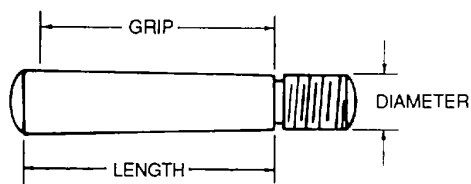

Figure 2-48. Threaded Taper Pin
(2) **Threaded taper pins.** Threaded taper pins, AN386, as shown in figure 2-48, are used with taper pin washers, AN975, and shear nuts, AN320. They are safetied with cotter pins, MS24665, or safetied with self-locking nuts, MS21083. (These Brown and Sharpe pins are installed in a standard "B & S" tapered socket.) The pin is set with a light tap from a rawhide or nylon mallet. The small end of the taper is installed flush or not more than .060 inch above the surface of the component. It is permissible to install a large size pin in some cases. Refer to the specific aircraft maintenance manual for maximum allowable size and required torque on the nut.